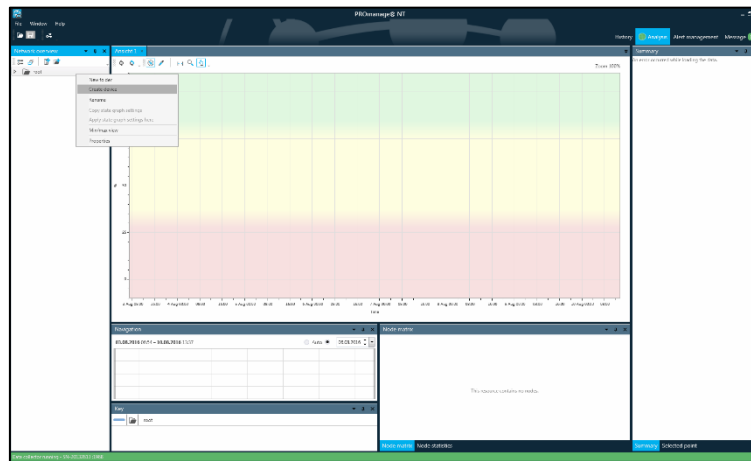

Figure 7: PROmanage NT, create device
- Create a new device in the Analysis and network overview tab by right-clicking (see figure 7).